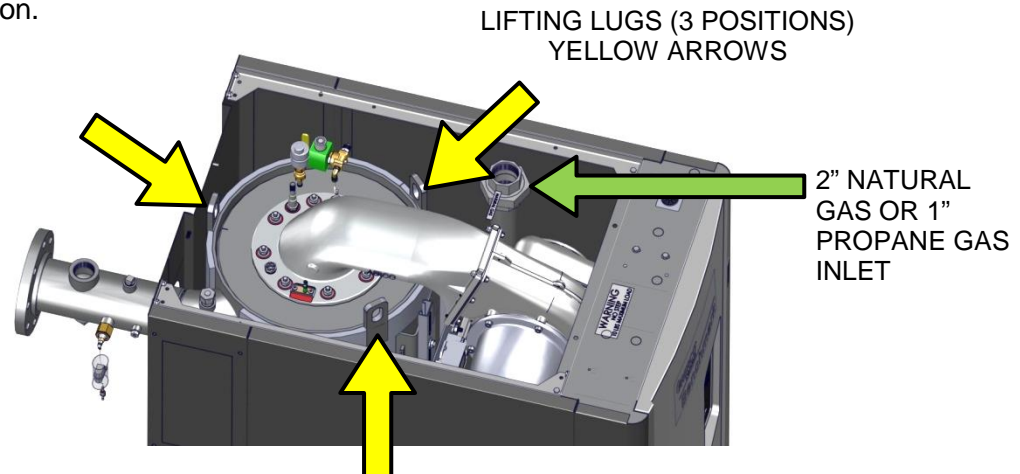

Figure 2-3b: Boiler Lifting Provisions – BMK 1500/2000 Shown
Three lifting lugs are provided at the top of the primary heat exchanger as shown in Figure 2-3b. Remove the front top panel from the unit to provide access to the lifting lugs. Remove the four (4) lag screws securing the unit to the shipping skid. Lift the unit off the shipping skid and position it on the **4 inch to 8 inch (10.2 cm to 20.3 cm)** housekeeping concrete pad (required) in the desired location.